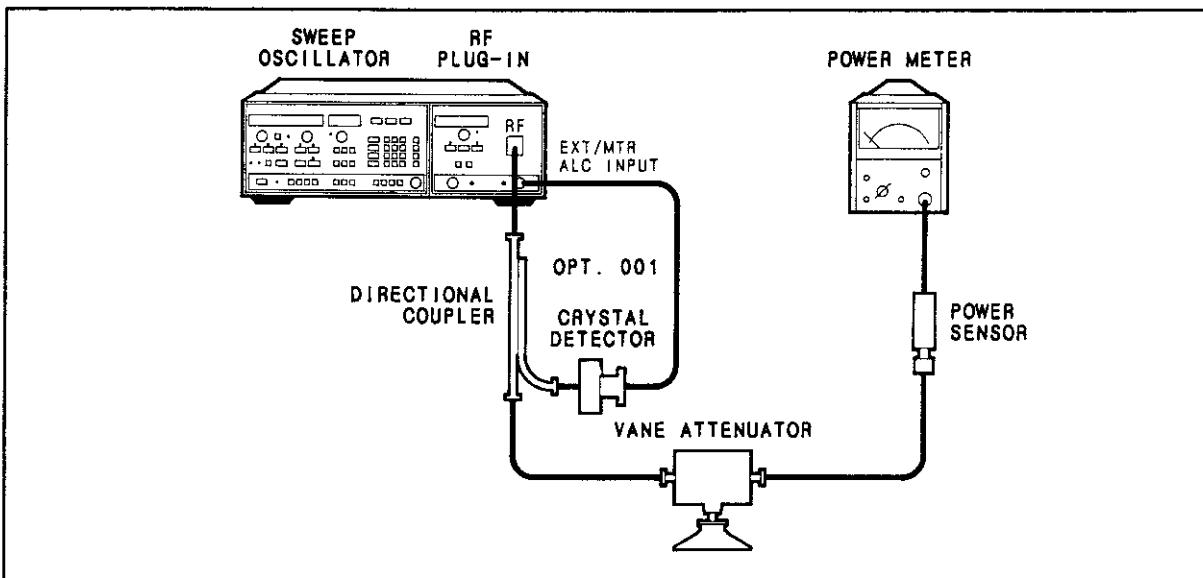

Figure 5-22. Power Sweep Adjustment Setup
1. Connect the equipment as shown in Figure 5-22. Set the vane attenuator to 5 dB.